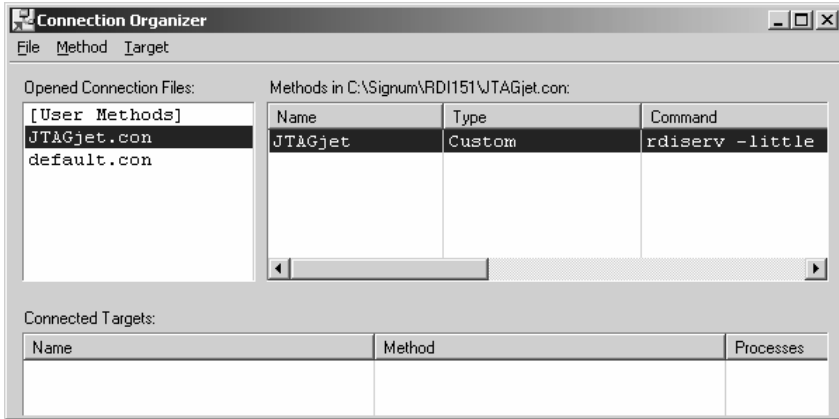

FIGURE 13 Choosing the JTAGjet.con file in the Connection Organizer.
2. In the Connection Organizer dialog box (Figure 13), select Open from the File menu and navigate to the JTAGjet.con file. In a standard installation, the file is found in the C:\Signum\RDI\Config\Multi directory.